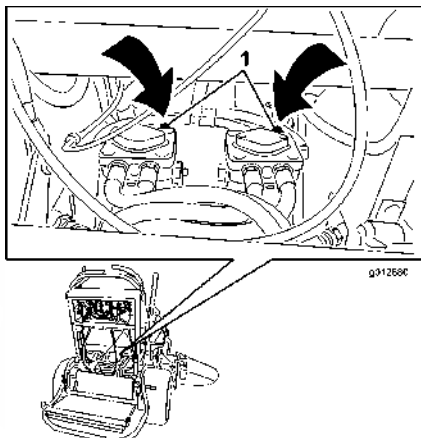

Figure 27
3. Open the bypass valve on both pumps by turning them counterclockwise 1 to 2 turns (Figure 27).